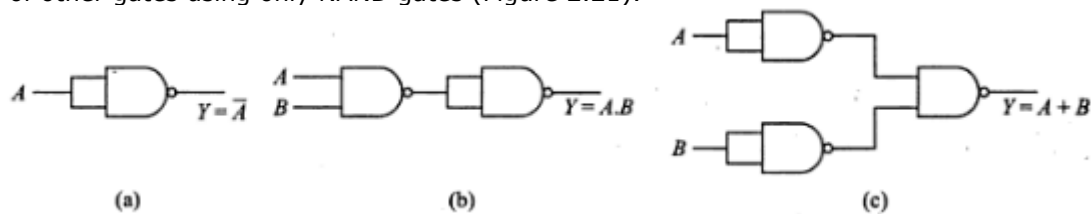

Figure 2.21: Universality of NOR gate (a)NOT from NOR (b)OR from NOR (c)AND from NOR
- Realization of other gates using only NAND gates (Figure 2.21).